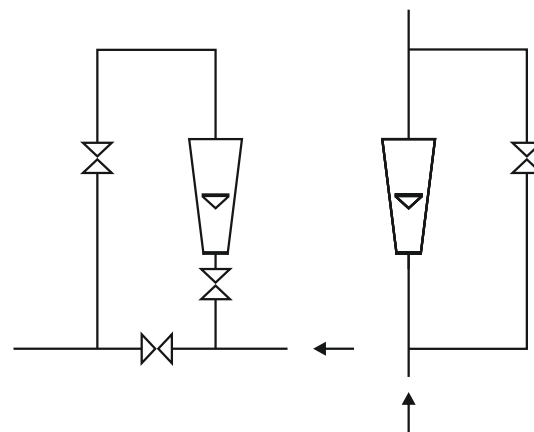

fig. 2
- 6) The strong blows of floats by buffer can cause breakage of glass pipe. We can avoid this situation by installing additional cut-off valve (fig.2). In periods, in which occur strong changes of flux the cut-off valve should be open. After fixing of flux the cut-off valve has to be closed and the rotameter indication should be read.